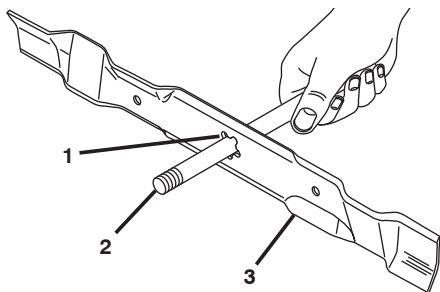

Figure 20
1. Slide blade on to an unthreaded portion of the steel bolt or pin and hold the bolt or pin parallel with the ground. If blade is balanced, it should remain in a horizontal position. If either end of the blade moves downward, sharpen the heavy end until the blade is balanced (Figure 20).